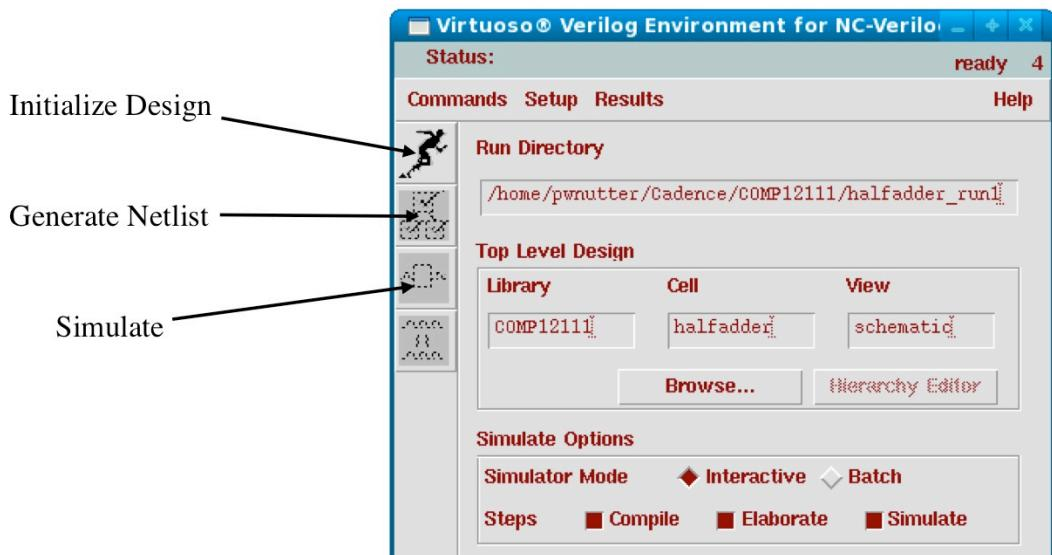

Figure 4.7: Virtuoso simulation window
2. Select **Xilinx ↴ Simulation** from the menu, this will open the “Virtuoso Verilog Environment for NC Verilog Integration” window as shown in Figure 4.7.
- Select **Xilinx ↴ Simulation**. This will open the “Virtuoso Verilog Environment for NC Verilog Integration” window as shown in Figure 4.7.